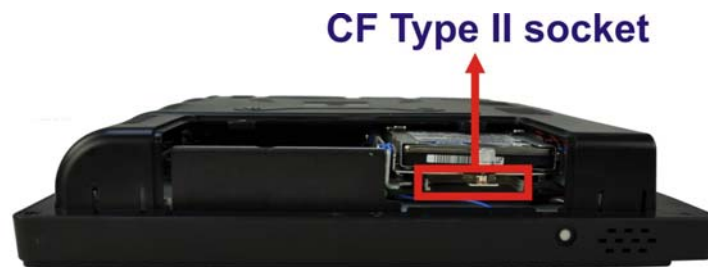

Figure 3-5: CF Card Location
Step 3: Locate the CF slot (Figure 3-5).